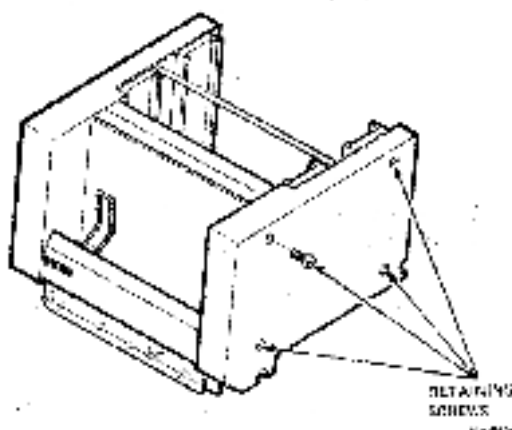

Figure 4-10. Side Cover Removal
1. Place the ASF on a table or flat surface in its normal upright position (Figure 4-10).
2. Remove the left or right side cover by loosening the four retaining screws and pulling the cover straight out (Figure 4-10).